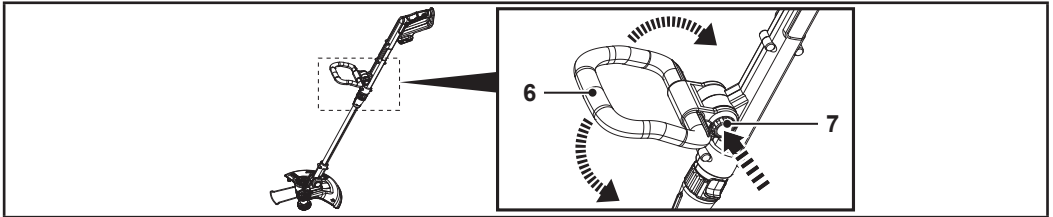

Fig. 5
1. Press the auxiliary handle lock (7) (Fig. 5).
2. Adjust the auxiliary handle (6) (Fig. 5).
3. Release the auxiliary handle lock (7).
4. Make sure that the auxiliary handle (6) locks in place.